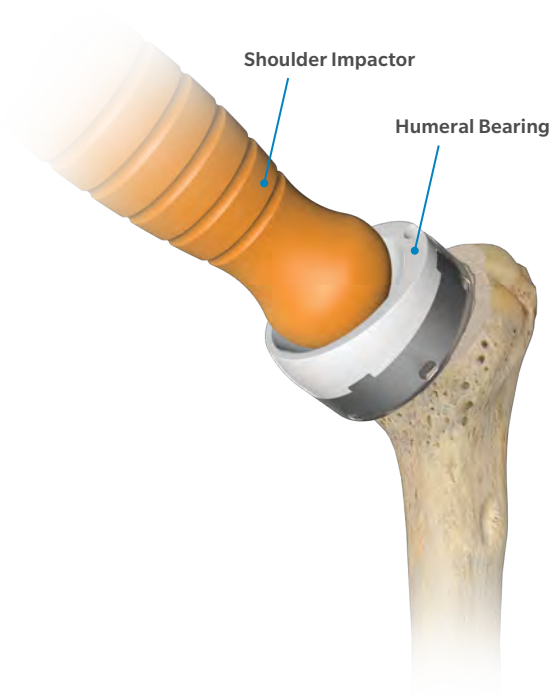

Figure 39
- With two firm strikes of Impactor, impact the assembled definitive Humeral Tray/Bearing into the AC-Connector (Figure 39).